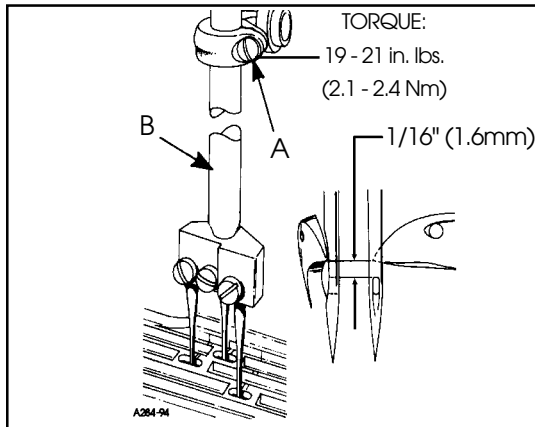

FIG. 9
The height of the needle bar is correct when the top of the needle eye is $\frac{1}{16}$ " (1.6mm) below the underside of the looper, with the looper point even with the right side of the needle. To make adjustment loosen screw (A, Fig. 9) and move needle bar (B) as required to attain dimension.